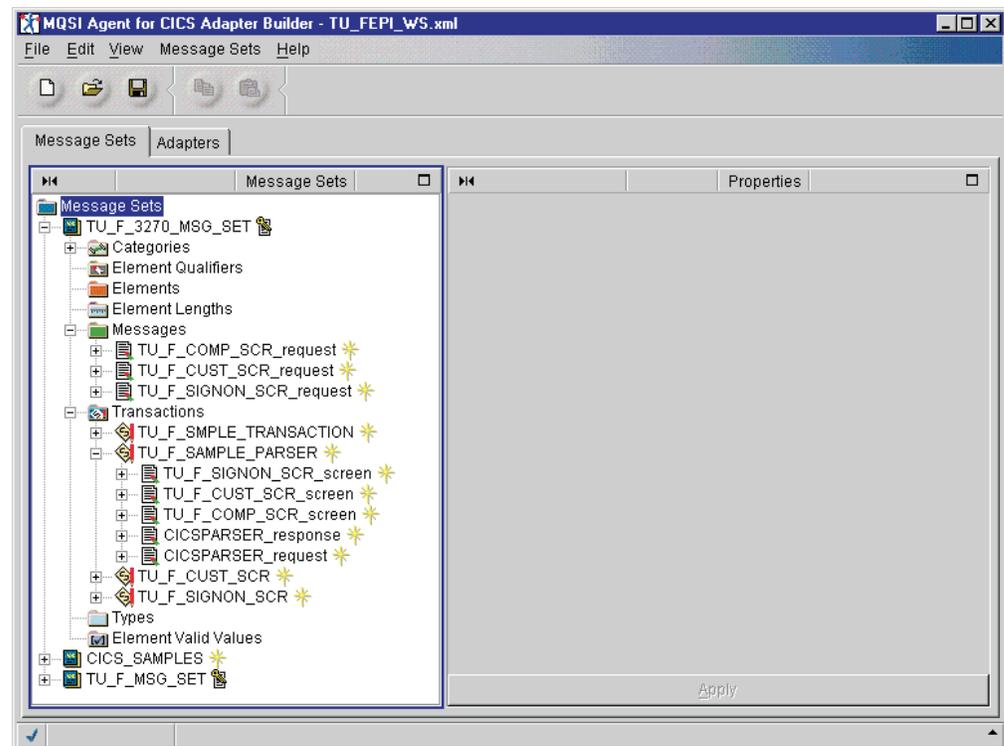

Figure 102. Message Sets view
- c. The Message Sets view is shown in Figure 102. Save your workspace by selecting **File > Save Workspace**.